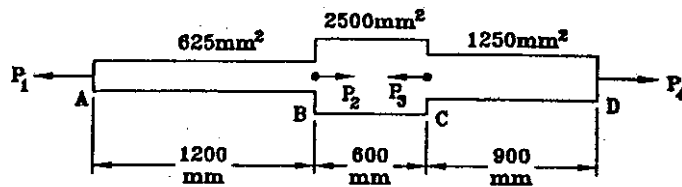

fig. 1 Q. 2 b)
b) A member ABCD is subjected to a point loads P_1, P_2, P_3 and P_4 as shown in fig. 1. Calculate the force P_2 necessary for equilibrium if $P_1 = 45 \text{ kN}$ $P_3 = 450 \text{ kN}$, $P_4 = 130 \text{ kN}$. Determine the total elongation of the member, assuming the modulus of elasticity to be $2.1 \times 10^5 \text{ N/mm}^2$. 6